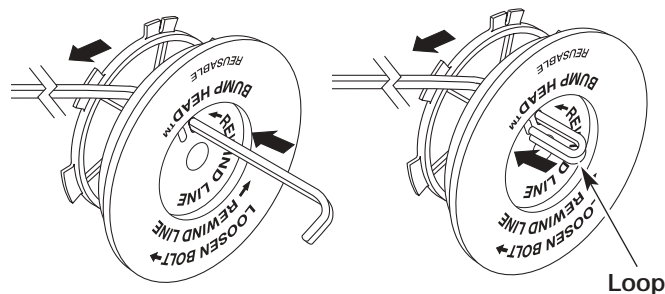

Figure 18
- Cut approximately 12 feet (3.65 m) of new trimming line. Insert one end of the line through one of the two holes in the inner reel. Pull the line through the inner reel until only about 4 inches is left out. See Figure 18.
- Insert the end of the line into the open hole in the inner reel and pull the line tight to make the loop as small as possible. See Figure 18.